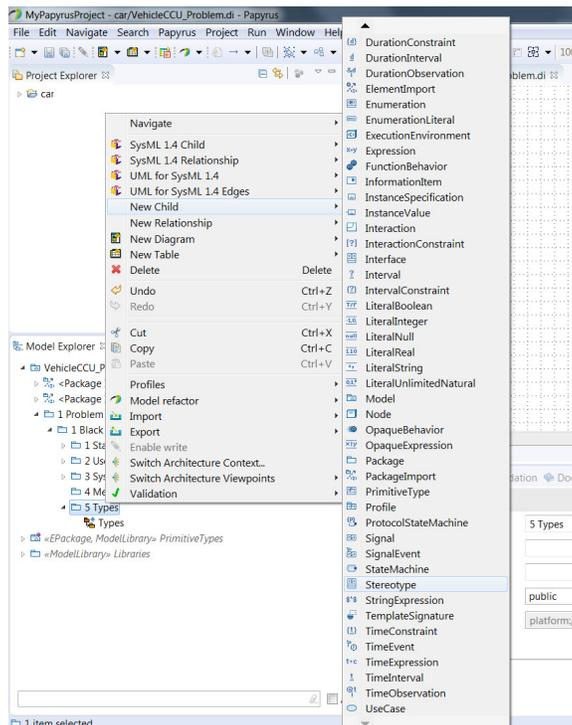
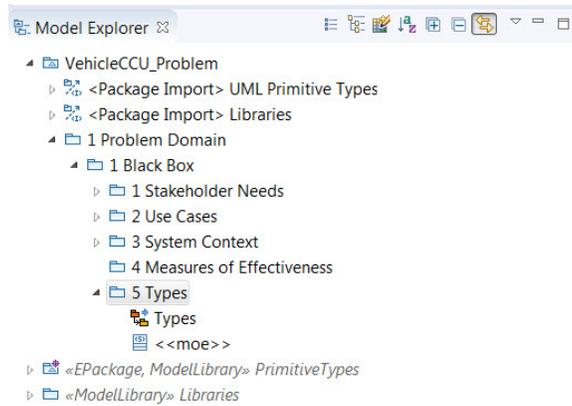

Figure 73: Creating the MoE stereotype.
Figure 74: Stereotype Created.
- Now we will set up our MoE stereotype. Right-click on the 5 Types package and select **New Child** and then **Stereotype** (figure 73) and name the stereotype «moe» (figure 74).